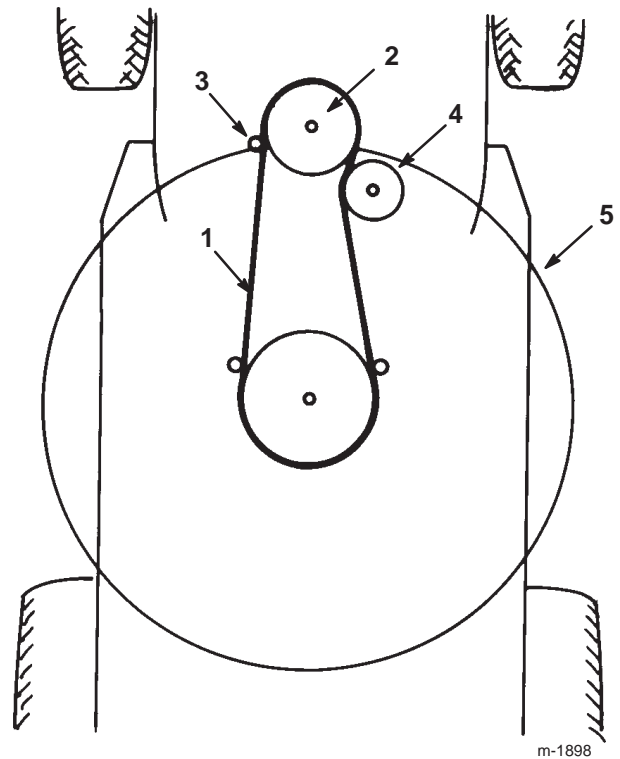

Figure 38
18. Remove the mower belt from the lower engine pulley (Fig. 38).
10. Install the mower belt onto the lower engine pulley (Fig. 38).